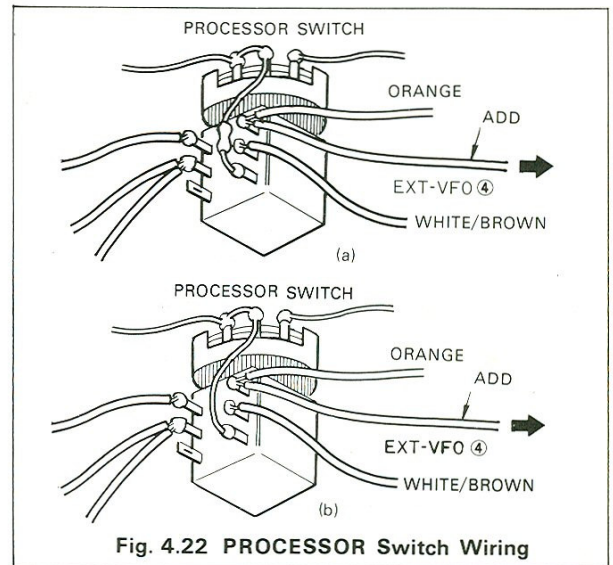

Fig. 4.22 PROCESSOR Switch Wiring
5. Wire the PROCESSOR switch (Fig. 4-22).